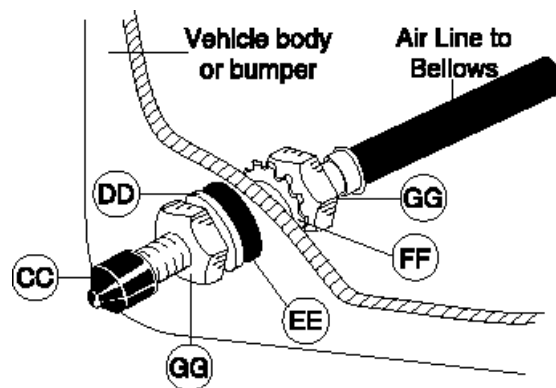

fig. 4
4. Place a 5/16" nut (GG) and a star washer (FF) on the air valve. Leave enough of the valve in front of the nut to extend through the hole and have room for the rubber washer (EE), flat washer (DD), and 5/16" nut (GG) and cap (CC). There should be approximately 1/2" of the valve exposed after installation to easily apply a pressure gauge or an air chuck (Figure 4).
5. Push the inflation valve through the hole and use the rubber washer (EE), flat washer (DD), and another 5/16" nut (GG) to secure it in place. Tighten the nuts to secure the assembly in place (Figure 4).